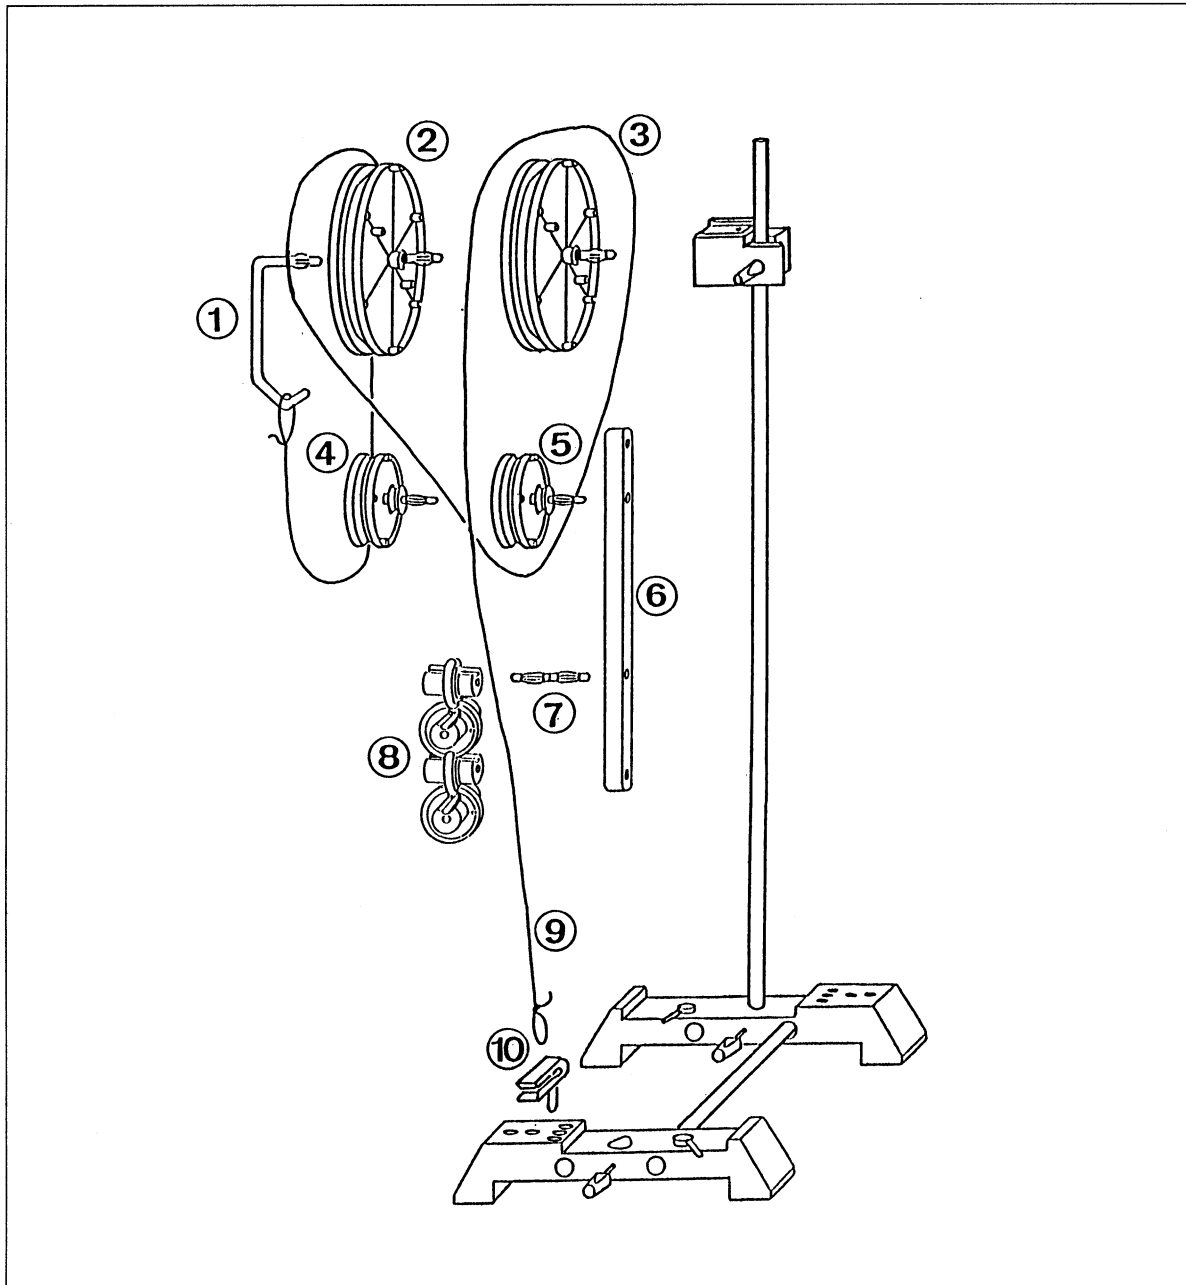

Fig. 1 Setup: compact block and tackle
1. Assemble the parts as shown in fig. 1: